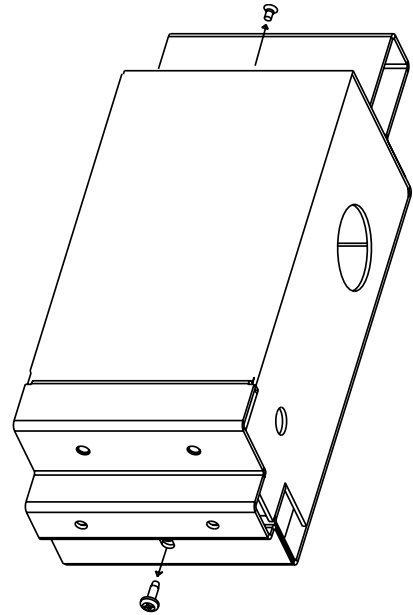

Figure 3
**Step 2:** Remove the foot cap cover for the IBD by removing the screws in the front and the back (Figure 3).